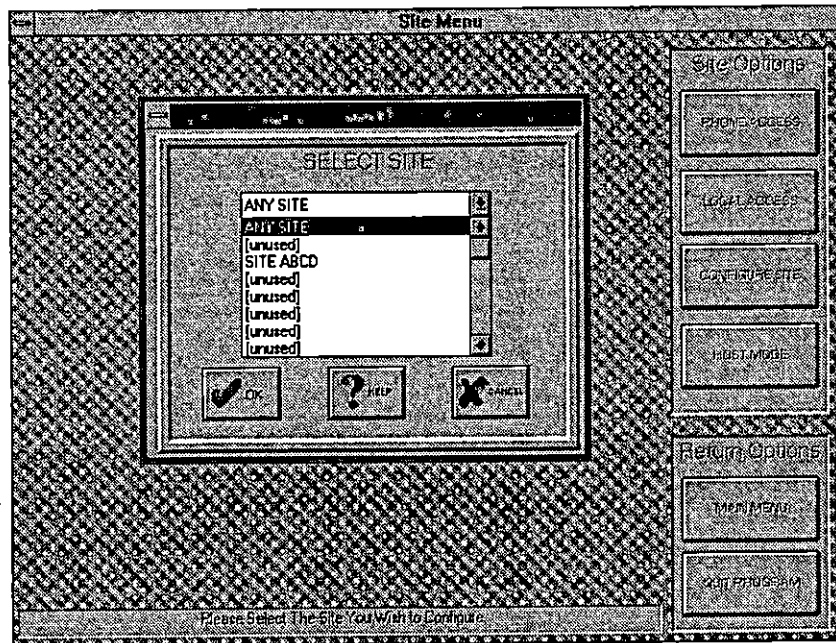

FIGURE 5-1. SITE LIST Dialog Box.
From the **Site Menu** screen (Figure 4-1, p. 4-3), click on the **PHONE ACCESS** button to display the **Available Sites** dialog box (Figure 5-1, p. 5-2).
2. Open SITEPRO Manager and, from the **Site Menu** screen (Figure 4-1, p. 4-3), click on the **LOCAL ACCESS** button to display the **Available Sites** dialog box (Figure 5-1, p. 5-2).